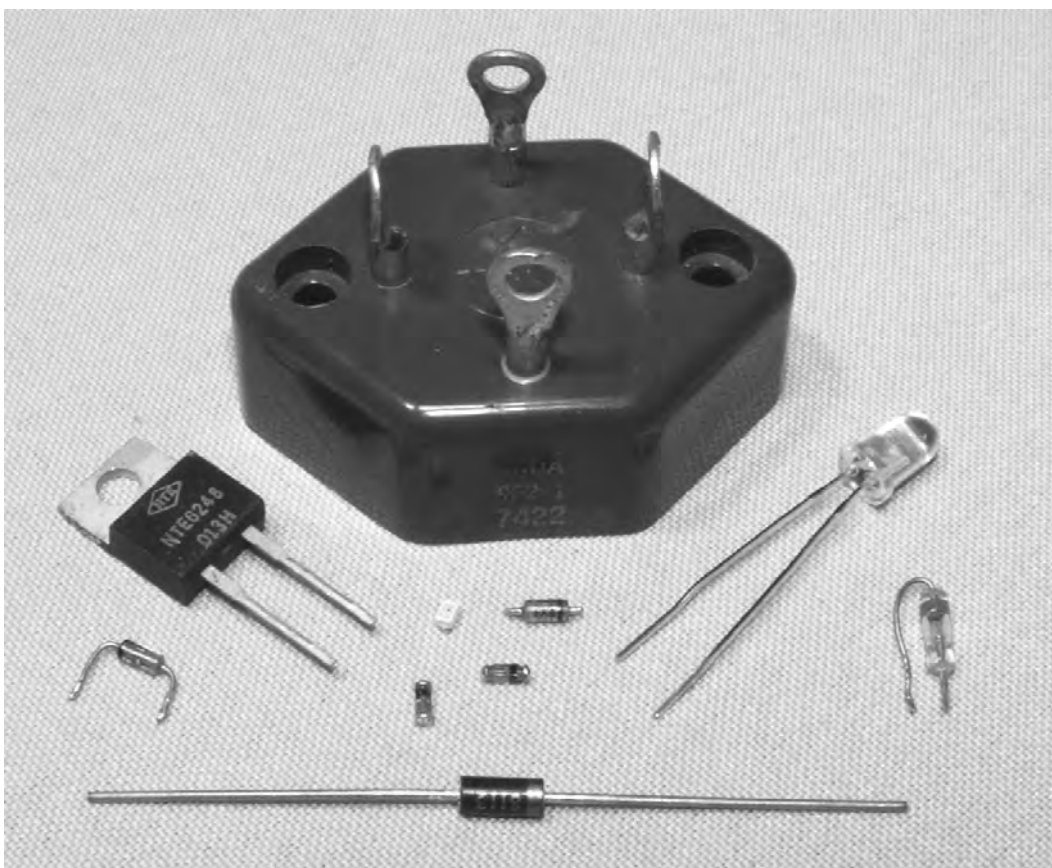

Figure I-16 Several styles of diodes, including an LED.
*Diodes* allow current to flow through them in one direction only, so they can be used to rectify ac into direct current (dc), block unwanted current from entering a device, protect a circuit from a power reversal, and even give off light in the case of LEDs. Figure I-16 shows various sizes and types of diodes, including an easy recognizable LED and the large full-wave-rectifier module at the top. A full-wave rectifier is just a block containing four large diodes inside.
For example, the NTE6248 diode shown in Figure I-16 in the TO220 case (left side of figure) has a datasheet that indicates that it is a Schottky barrier rectifier with a peak reverse-voltage maximum of 600 V and a maximum forward current rating of 16 A. Datasheets will tell you everything you need to know about a particular device, and you should never exceed any of the recommended values if you want a reliable circuit. The schematic symbol for a diode is shown in Figure I-17, D1 being a standard diode and the other an LED (the two arrows represent light leaving the device).